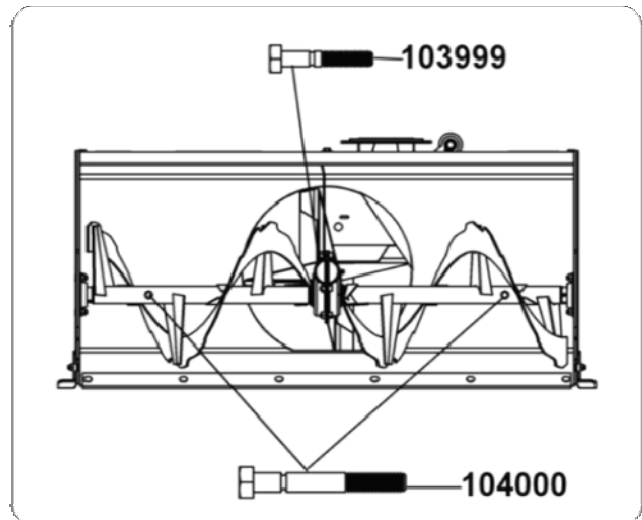

Figure 22– Shear bolt
**IMPORTANT:** When replacing the auger shear bolts it is very important to replace the augers in the same position as shown in figure 22 to avoid damage to the snowblower and to ensure maximum efficiency.